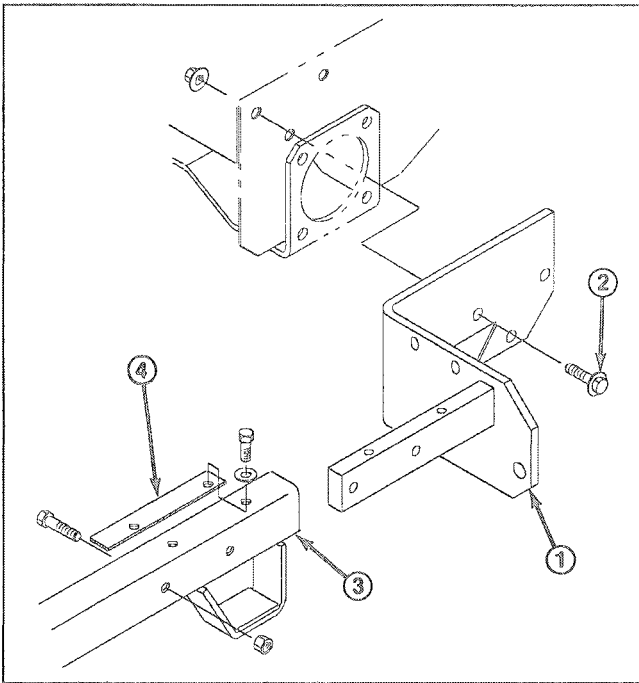

Figure 2
1. Align left and right angle bracket mounting holes with appropriate mounting holes in traction frame. Secure each bracket to frame with (3) 1/2 – 13 x 1" lg. flange screws and 1/2 – 13 flange locknuts (Fig. 2). Mount bottom flange screws with locknuts to the outside. Torque fasteners to 60–80 ft.-lb.
2. Align carrier frame mounting holes with mounting holes in angle brackets, while positioning shim between top of angle bracket and carrier frame, and aligning mounting holes (Fig.2).
3. Secure each side with (2) 3/8 – 16 x 1–3/4" lg. capscrews and 3/8 – 16 locknuts. Locknuts must be positioned outside carrier frame.
4. Secure top of each carrier frame and shim to angle brackets with (2) 3/8 – 16 x 7/8" lg. capscrews and lockwashers. Torque fasteners to 240–320 in.-lb.